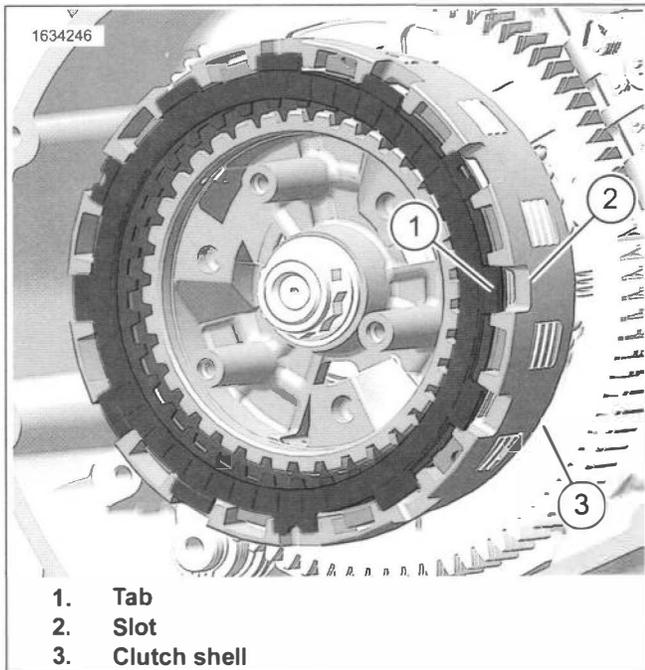

Figure 5-29. Last Friction Plate Alignment
6. See Figure 5-29. Align and install last narrow friction plate tab (1) with slot (2) on clutch shell (3) as shown.